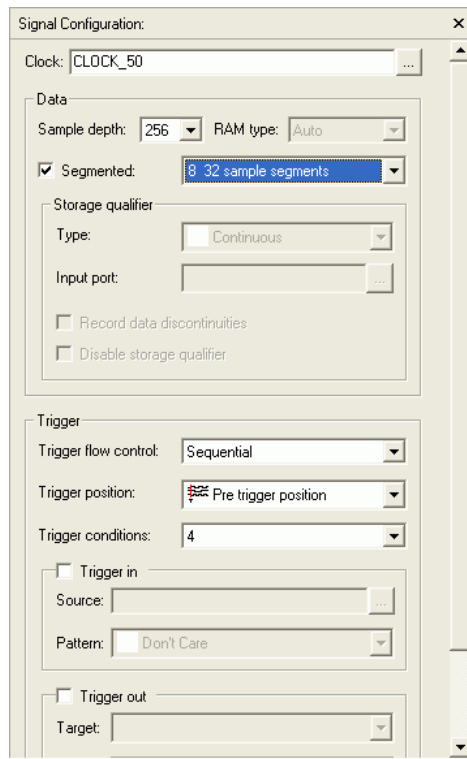

Figure 22. Select Segmented buffer acquisition mode with 8 32 sample segments.
- In the Signal Configuration pane of the SignalTap II window, in the Data section of the pane check Segmented. In the dropdown menu beside Segmented, select 8 32 sample segments. This will result in a pane that looks like Figure 22.